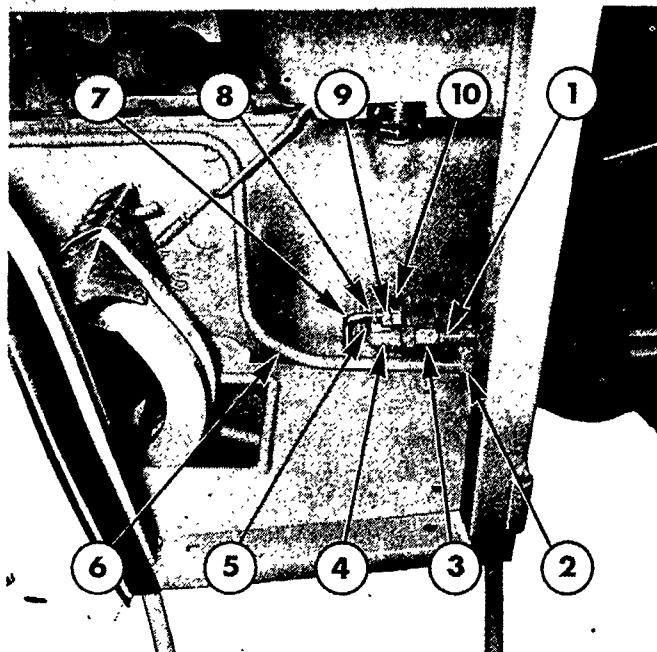

Figure 6
3. Remove the clamps and disconnect the lubrication and pressure line control tubes from the control valve, Figure 6, and remove the elbows and connecting nipples.